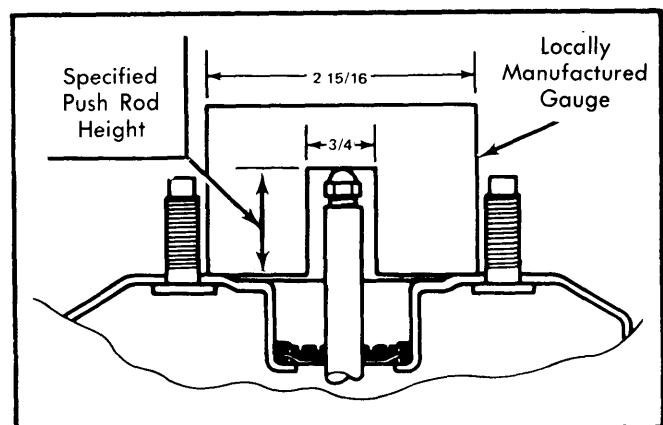

Fig. 4 Checking Push Rod Height Ford and IHC
**Ford & IHC** — Check distance from outer end of booster assembly push rod to front face of booster. Use a gauge manufactured to specifications. See Fig. 4. Turn push rod screw in or out until specified length is obtained.